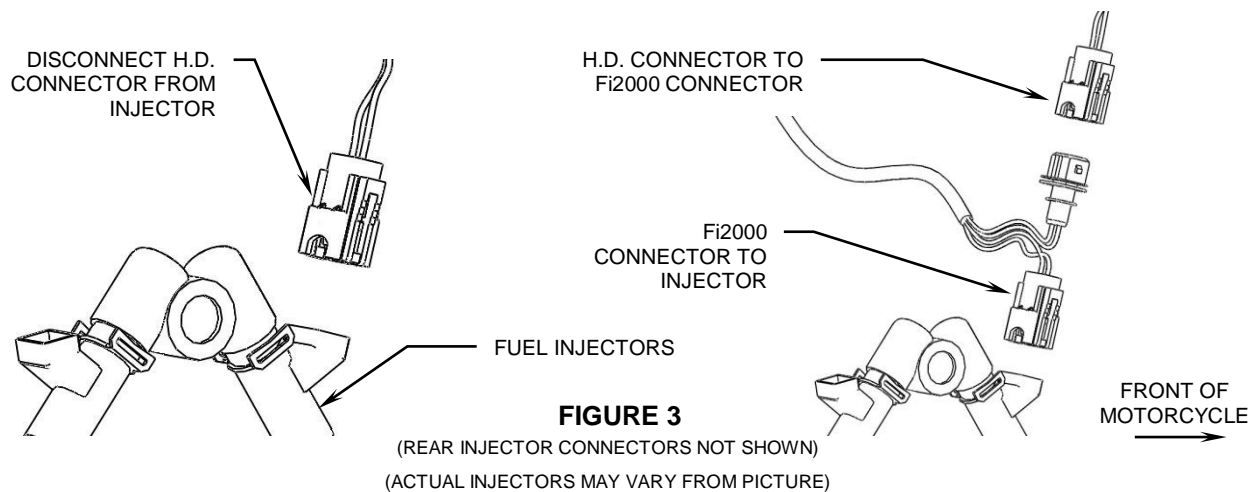

FIGURE 3
6. Disconnect the stock front female injector connector and mate a pair of the Fi2000 connectors to the front injector by installing the Fi2000 female connector on to the front injector and stock front female connector to Fi2000 male connector. See Figure 3.
7. Mate the other pair of connectors to the rear injector in the same manner as the front injector, See Figure 3.